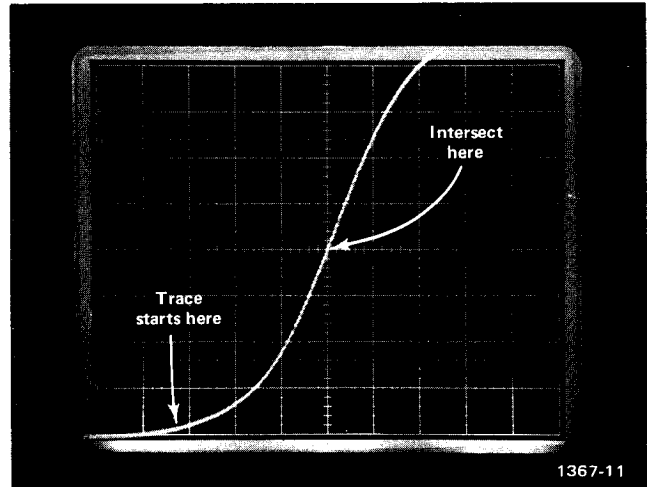

Fig. 1. +INPUT signal.
4. Use the Time-Domain Reflectometer controls to obtain a full graticule display of the rising portion of the pulse. Adjust the controls so that the pulse starts at the lower left side of the graticule and intersects the graticule center lines, see Fig. 1.